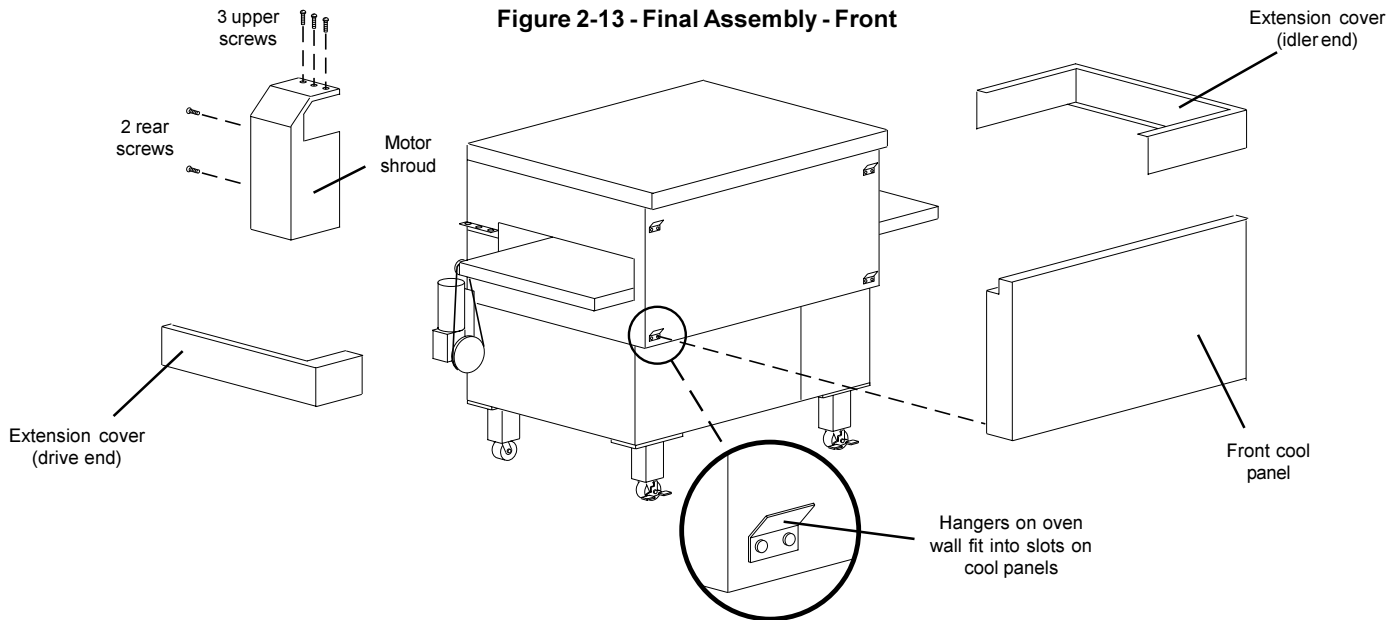

Figure 2-13 - Final Assembly - Front
1. For gas ovens, attach the flue vent to the rear wall of the oven as shown in Figure 2-13. Use one #10-16 x 3/8" screw and two #10-32 x 3/4" screws. All three screws are provided in the Installation Kit.
2. Install the motor housing, and secure it in place with its five mounting screws. Two screws are located on the back wall of the oven, while three are located on the hanger bracket on the left end panel. See Figure 2-13.
3. Install the conveyor extension covers over the ends of the conveyor frame. See Figure 2-13.
4. Check that the cool panels are properly mounted, as shown in Figures 2-13 and 2-14. Slots on the back of the panels fit over the hangers on the walls of the oven. One cool panel is attached to the front of the oven, while two are attached to the rear.